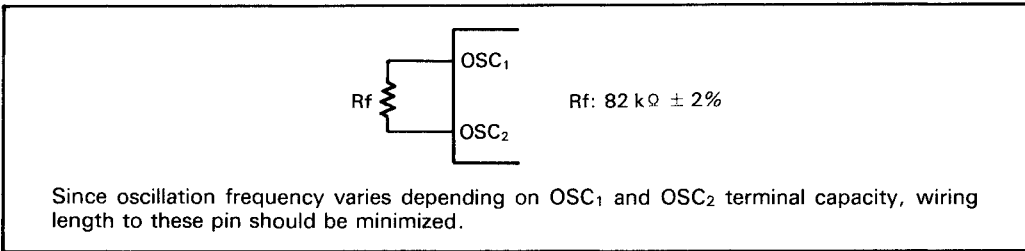

Figure 45. Internal Oscillator, Resistor
- Internal oscillator operation using a ceramic filter (figure 45)